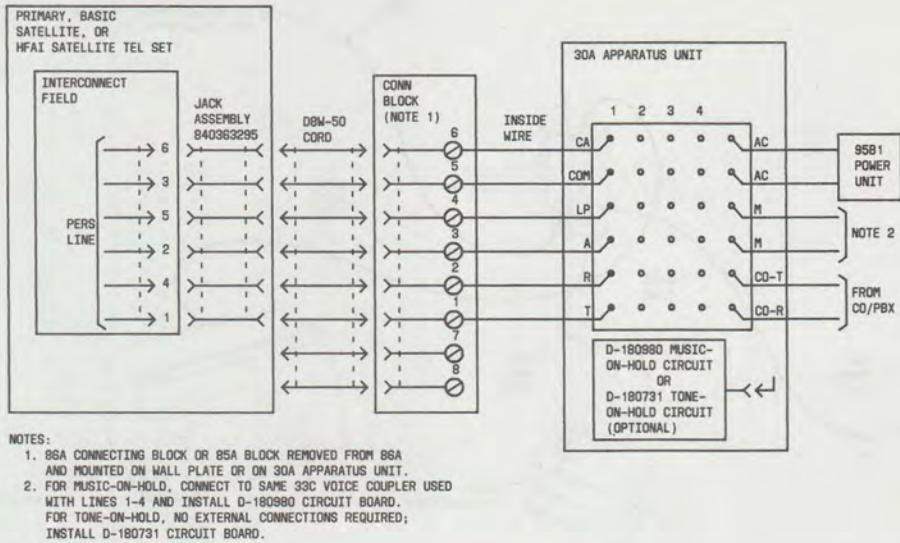

Fig. 43—Personal Line Connections for Primary, Basic Satellite, or HFAI Set Using 30A (MD) Apparatus Unit
- (1) After the 30AM apparatus unit is connected to the 86A block associated with the BIS satellite set, no further installation is required. The D8W cord which connects power to the speakerphone circuit also provides the necessary personal line connections.
- (2) Be sure that the personal line is connected to terminals 1 through 6 and the 2012B transformer to terminals 7 and 8.
In existing installations, the 30A (MD) apparatus unit may be used for personal line; it is permissible to reuse this unit in other installations. Connections are shown in Fig. 43 and 44.
3.70 Connections for personal line on the 30A (MD) apparatus unit are shown in Fig. 43 and 44.